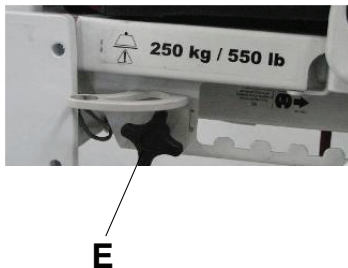

Figure 127: Attaching the screw knob
2. Attach the screw knob onto the bracket back (E) (Figure 127 on page 112).